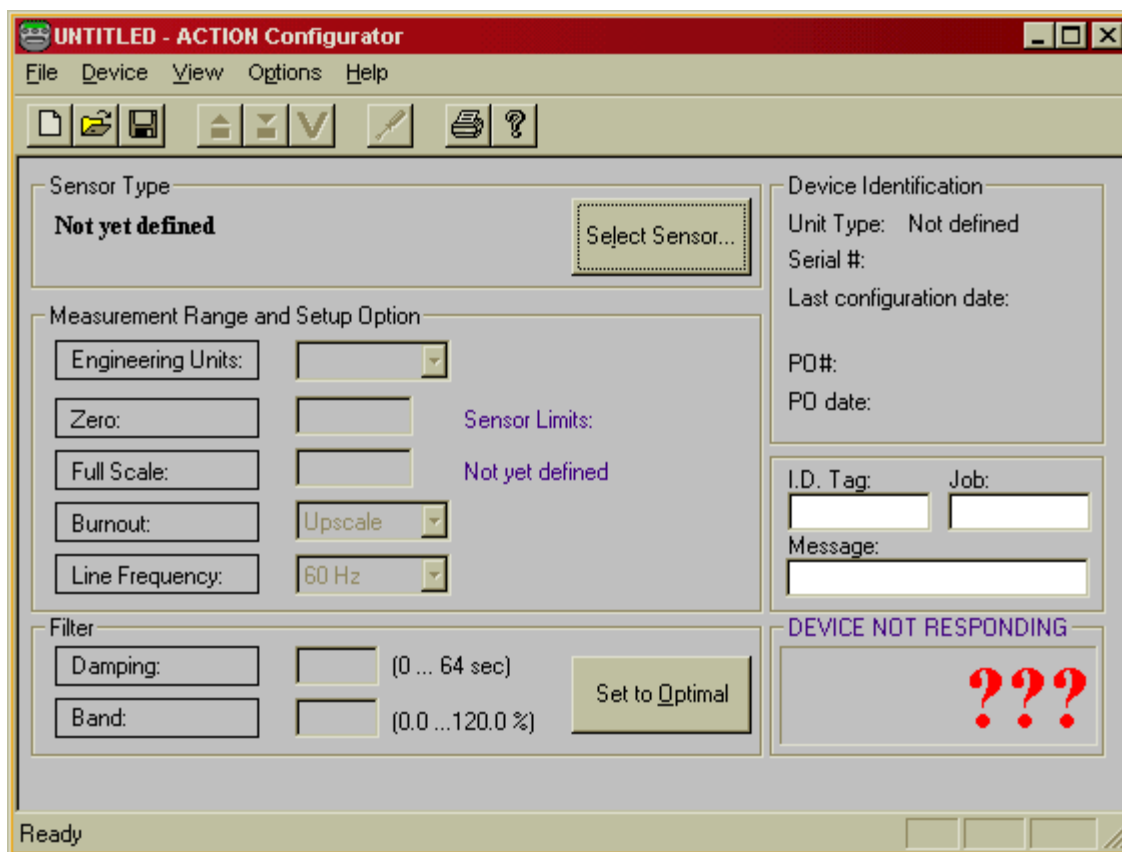
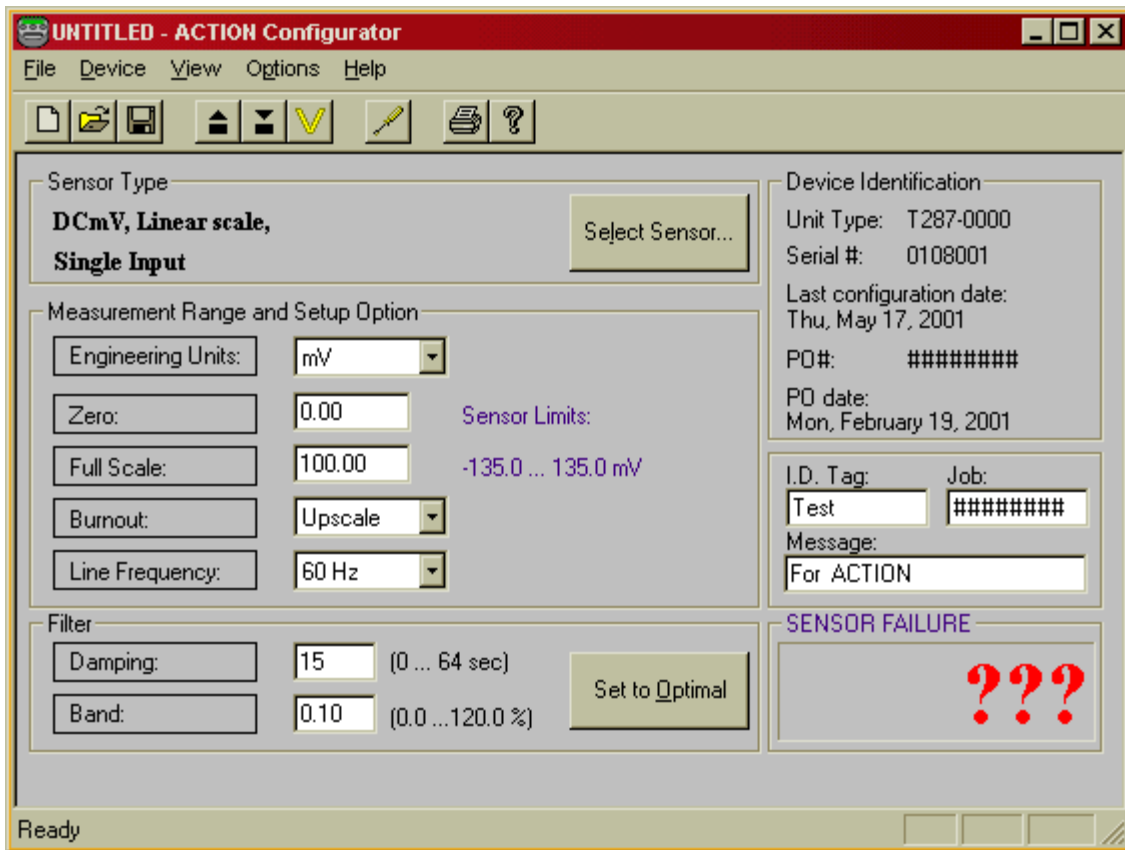

Figure 3.
Figure 4.
4. When the connection is made and the program recognizes that a transmitter is connected to the serial port, the toolbar icons will become highlighted. If the transmitter was not automatically recognized, click on the “**UPLOAD**”  icon. This will begin the communication process between the transmitter and your PC. Once completed the transmitter's calibration and configuration settings will be loaded into your PC. (See Figure 3)
Figure 3 is an example of the screen that will be displayed when the user opens the program. From this point you must plug-in the transmitter to the computer for the next screen (See Figure 4) to appear.